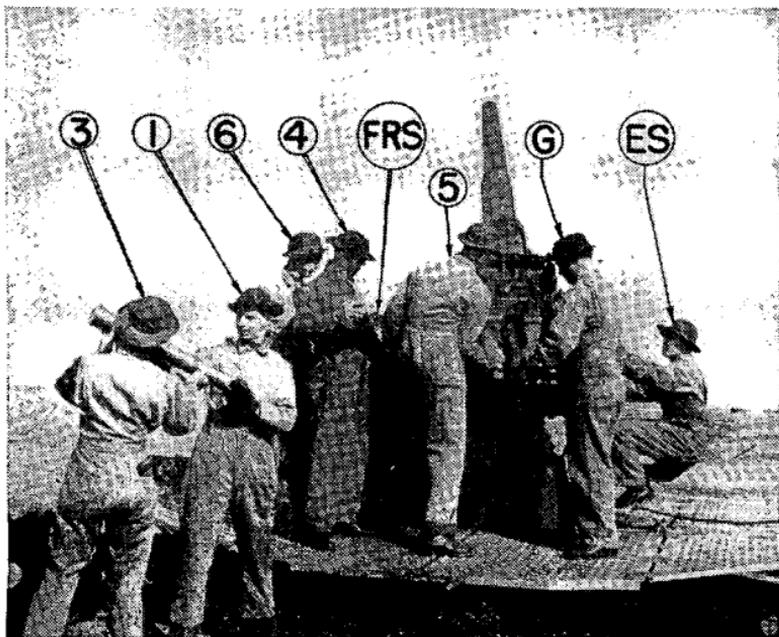

FIGURE 2.—Round being rammed, M3 gun on M2A1 mount
■ 15. METHOD OF RAMMING CARTRIDGE.—The cartridge is rammed into the gun with the left hand. Place the gloved fist on the base of the cartridge case, wrist practically vertical, and sweep the round smartly into the breech, applying continuous pressure, until the closing breechblock knocks the hand clear. The cartridge is rammed with the side of the fist, the pressure being applied through the back of the thumb and the side of the index finger. In this manner continuous pressure can be applied and the hand cannot be caught in the breech. Figure 2 illustrates the proper method of ramming.
■ 16. METHOD OF HANDLING AMMUNITION AND FUZE SETTER M8.—*a.* (1) The first ammunition handler takes a round from the stack near the piece, right hand grasping the projectile, left hand near the base of the round. He turns to the right and passes the round to the next ammunition handler. The second ammunition handler takes the round in his upturned palms, right hand near the base, left hand near the projectile, turns to the left, and lifting the round to the level of his eyes passes it to the ammunition handler stationed on the mount platform slightly to the rear and left of the fuze setter guide. The ammunition handler on the mount platform turns to the right to receive the round from the second ammunition handler. Then holding the fuze toward the setter, left hand grasping the projectile and right hand cupped over the cartridge base, he turns to the left and advances a step toward the setter raising the base end to aline the round with the axis of the setter. As the fuze enters the setter guide, he withdraws his left hand. With his right hand he pushes the round downward into the setter, leans forward, and while balancing himself with his right hand by pressing against the base end of the case, brings his left hand over and sharply slaps the release lever located on the top side of the fuze setter. He maintains pressure on the base of the round until the fuze setter operator has completed one turn of the crank and called out "Cut." He then straightens up, steps back, and on receiving the next round repeats the operation.
(2) After the fuze setter operator calls "Cut," the relayer withdraws the round from the fuze setter, steps toward the gun, and holds the round in loading position for the gunner.
b. The fuze setter operator, standing on platform alongside of the seated fuze range setter, maintains a downward pressure on the handle of the fuze setter crank. When the round is seated in the fuze setter and the setting release has been tripped, the fuze setter operator operates the crank one complete turn counterclockwise until the crank relocks and then calls "Cut." The fuze range setter, seated on the one seat of the setter, maintains pointer coincidence in the data indicator by manipulating the adjusting handwheel. Figures 2 and 3 illustrate the service of ammunition to the fuze setter and to the breech.
(1) When the round is in the fuze setter, pressure should be maintained against the base of the cartridge case until the call "Cut" is heard. The use of a heavy glove on the right hand of the ammunition handler who maintains such pressure will greatly reduce the friction against his hand produced by the rotating case.
(2) The release lever on the fuze setter should be tripped with a *glancing* slap at the release lever so that the latter will instantly recover and rearm itself before a full revolution of the crank has been completed.
(3) Sufficient downward pressure must be maintained on the crank of the fuze setter so that the rotation will start the instant the release is tripped. Otherwise the release lever would have to be held down and the release would probably fail to rearm in time for the crank at the end of its one revolution. When setting original or reconditioned Mk. III or Mk. IIIA1 powder train fuzes, the setting crank of the fuze setter should be turned at a moderate speed until the setting